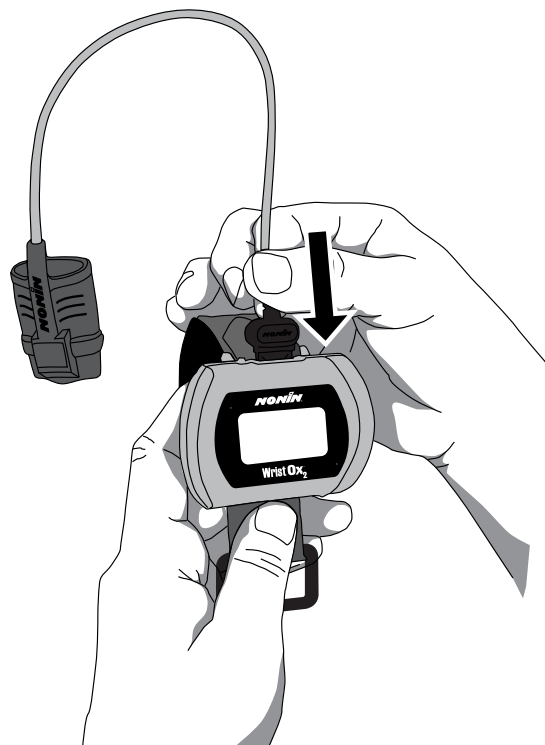

Figure 10: Attach Sensor
1. Insert the sensor connector into the sensor port at the top of the device (figure 10). The Nonin logo on the sensor connector should face the front of the device.